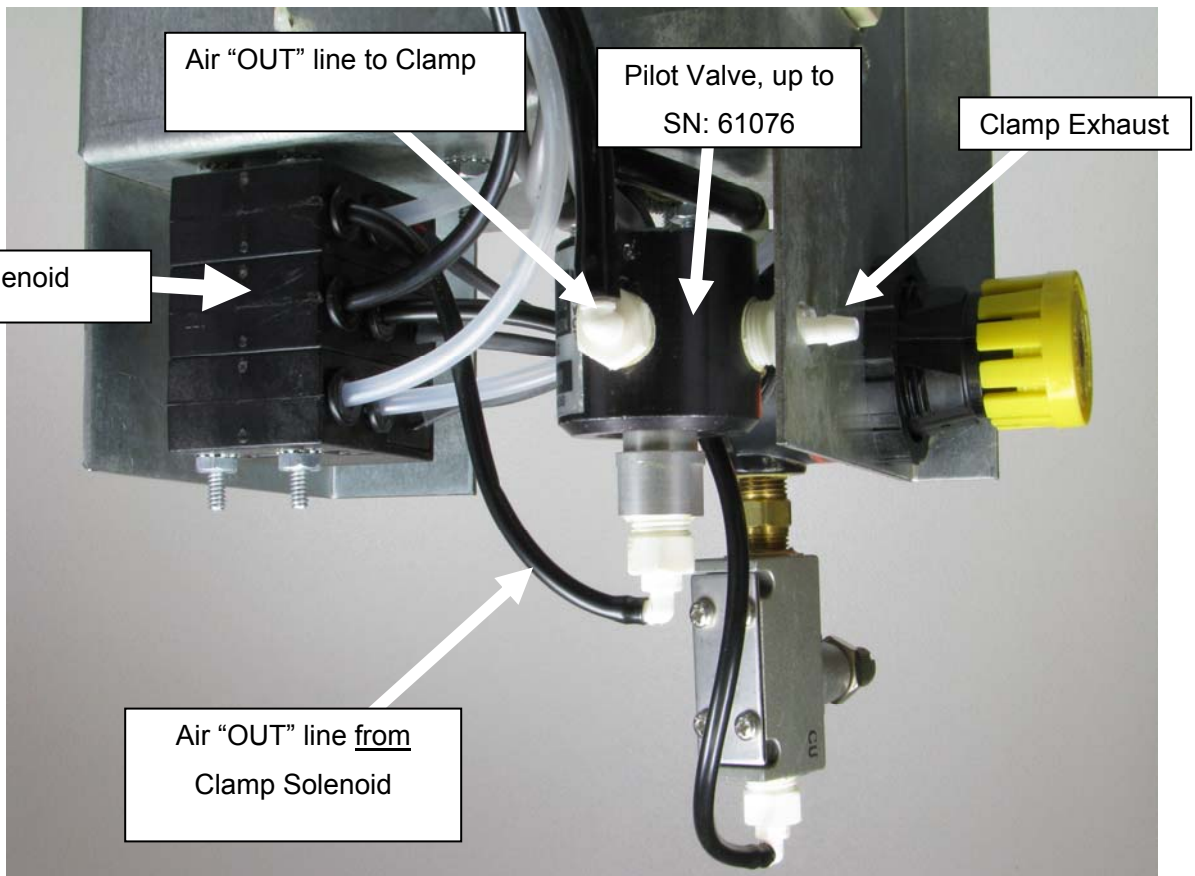

Fig 6
1. Open the rear door on the machine. The Exhaust port is the small, white plastic barb to the left of the regulator knob. **See Fig 6.**